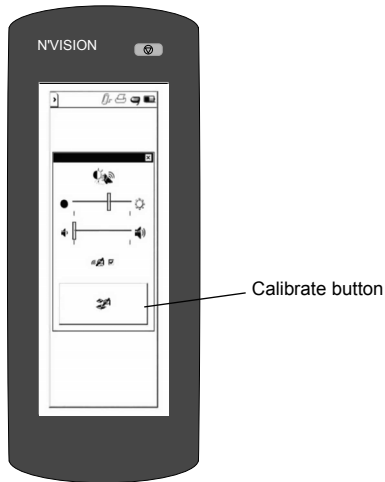

Figure 30. Calibrating the display.
- Press and hold the **Programming (P)** key while the programmer is powering up.
- From the slider bar, select the **Settings** button (🔧), then select the **Calibrate** button (👉) (Figure 30 on page 57).